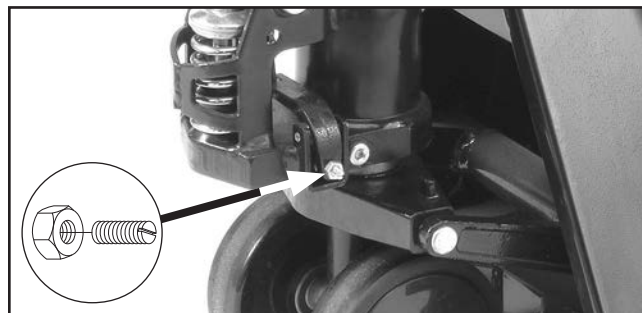

**Figure 5.** Location of actuating cam.
- Insert (1) roll pin into open end of handle shaft to secure, then remove pivot shaft from **Step 2** and save for future use.
- Lift actuating cam and slide stud on end of chain through slot, then tighten lock nut 1–2 turns to secure (see **Figure 5**).